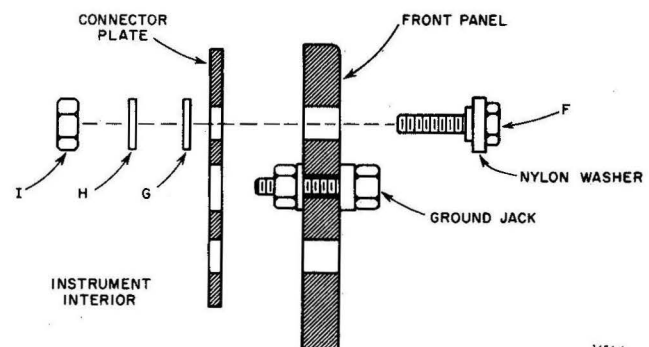

Figure 2-7. Removal of connector plate from front panel.
c. On the front panel (see Figure 2-7): Remove and retain the upper and lower (not the center or ground jack) jacks with nylon washers (F), flat washers (G), lockwashers (H), and nuts (I).
h. Refer to Figure 2-7. Install the two jacks (parts F through I) that were previously removed from the front panel.